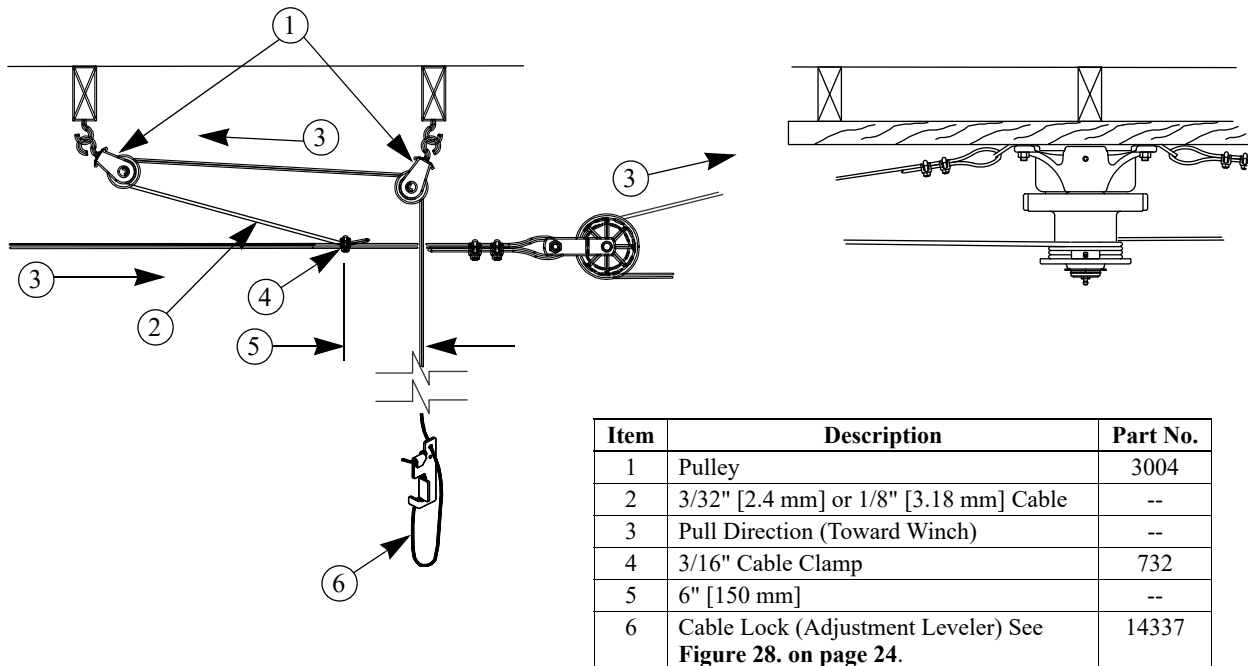

Figure 16. Drop Installation Throwback arrangement
Cable included for Throwback pulleys beneath or near Winch (See Figure 16.)
3. Cut the cable long enough to allow for installation to the feeder line and to the adjustment leveler. Sufficient cable is included to provide "throwbacks" on drops located beneath and near the winch. **See Figure 16 (on page 19)**, Detail D shows a "throwback" cable arrangement.